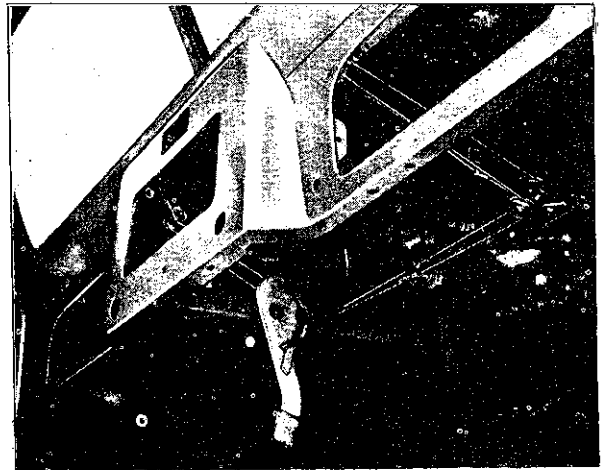

FIG. 331—WINDSHIELD WIPER CONTROL
A tensioner may be readily released for cable replacement by loosening the nut which attaches it to the mounting bracket. See Fig. 331.
**b.** There is a tensioner for both the left and right wiper. The right tensioner can be seen in Fig. 331. This adjustment can be made on left or right tensioner or both.